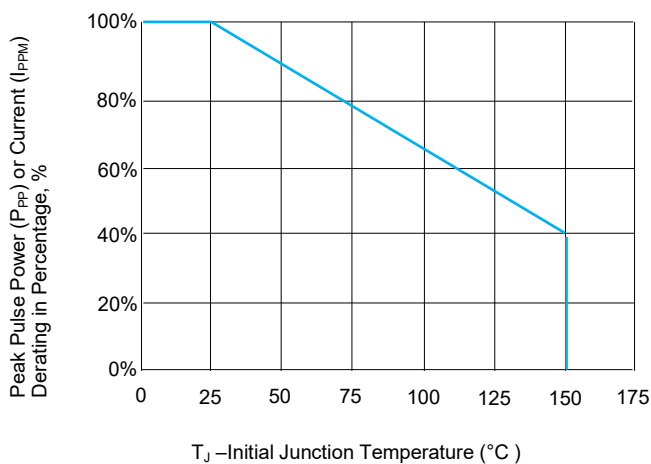
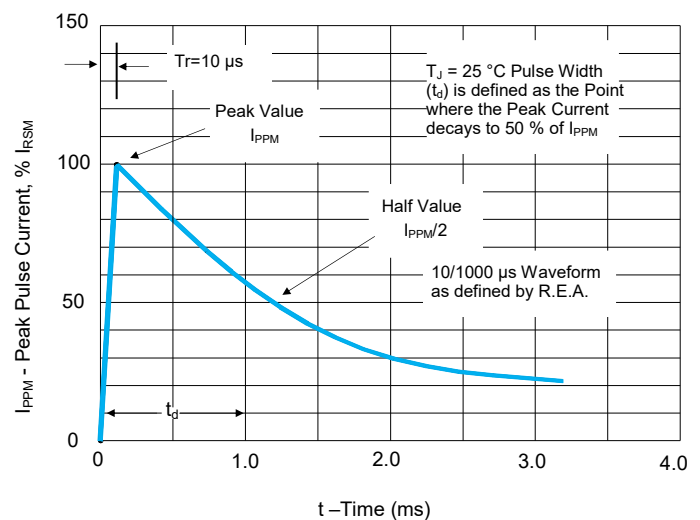

FIGURE 3 Peak Pulse Power Derating Curve
FIGURE 4 Pulse Waveform - 10/1000 μs
- Non-repetitive current pulse, per Fig. 4 and derated above T_J(initial)=25 °C per Fig. 3.